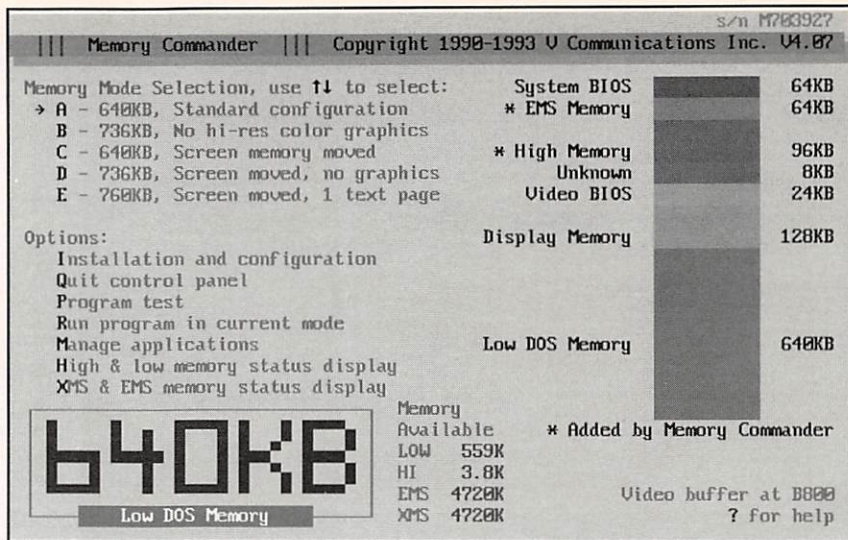

Fig. 2. *Memory Commander* has five memory modes in which DOS applications can run. The standard mode is shown above.
When it comes to expanding the 640K envelope, nobody does it better than *Memory Commander* from V Communications (Fig. 2). Under ideal conditions, contiguous conventional RAM can be expanded to 800K for running VGA graphics and to a whopping 920K for running VGA text applications. *Memory Commander* works with all 386 and 486 PCs that have at least 512K of extended memory.
*Memory Commander* works on a unique memory-management technique that permits devices in upper memory to float. As the need for contiguous conventional RAM increases, *Memory Commander* pushes such devices as video display memory, BIOS ROMs and hard-disk ROM up to 1M as far as possible (see Fig. 2). For example, you can raise the conventional RAM limit to 780K by simply moving the video buffer and video BIOS from 640K (A000) into the vast UMB wasteland below 896K. Additional memory can be gained by reducing the memory requirements of the video programs.